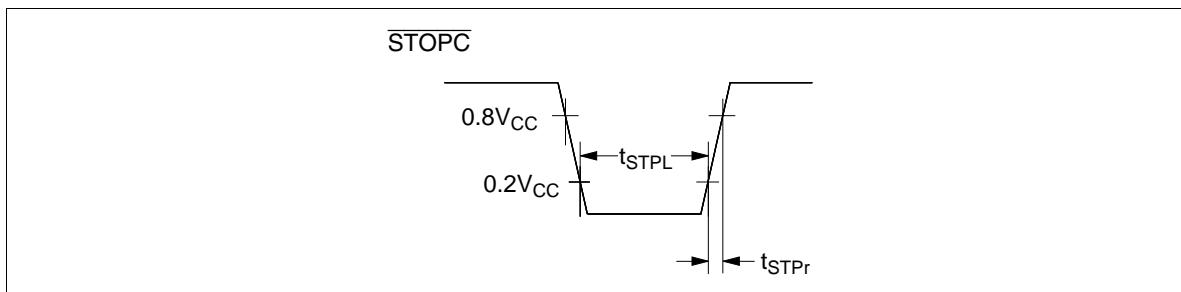

Figure 87 $\overline{\text{STOPC}}$ Timing
6. Refer to figure 87.
8. Refer to figure 87.